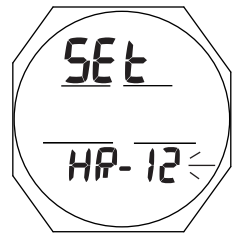

Fig. 18 - SET HOUR FORMAT
**Set Hour Format**, information includes (Fig. 18):